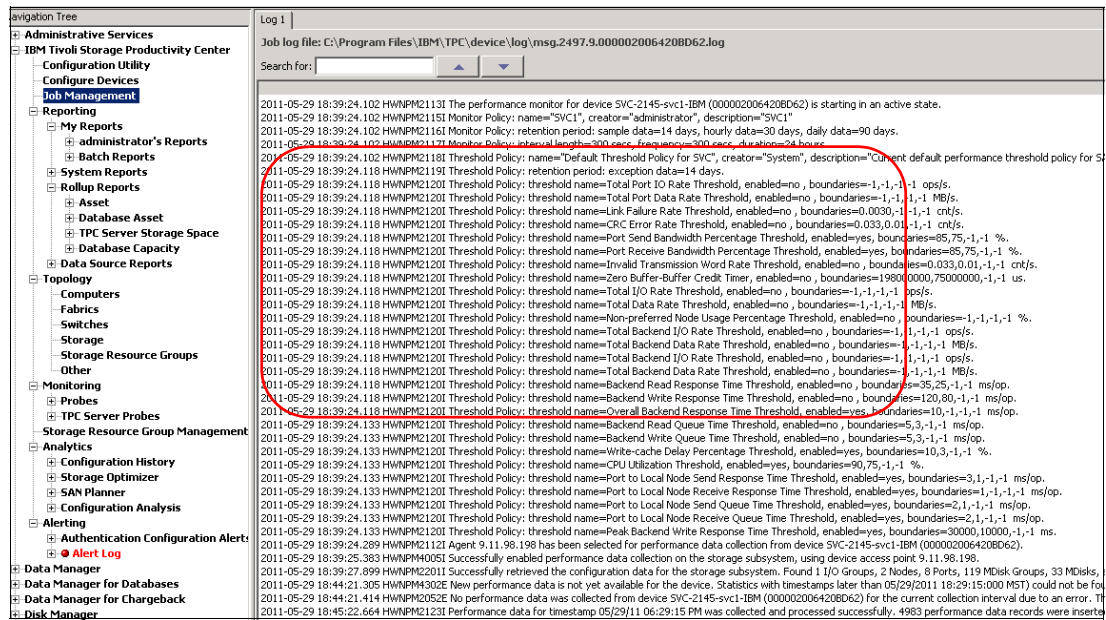

Figure 13-128 SAN Volume Controller constraint threshold enabled
4. To access to the corresponding log file, click **View Log File(s)**. Then, you can see the threshold that is defined, as shown in Figure 13-128 on page 461.